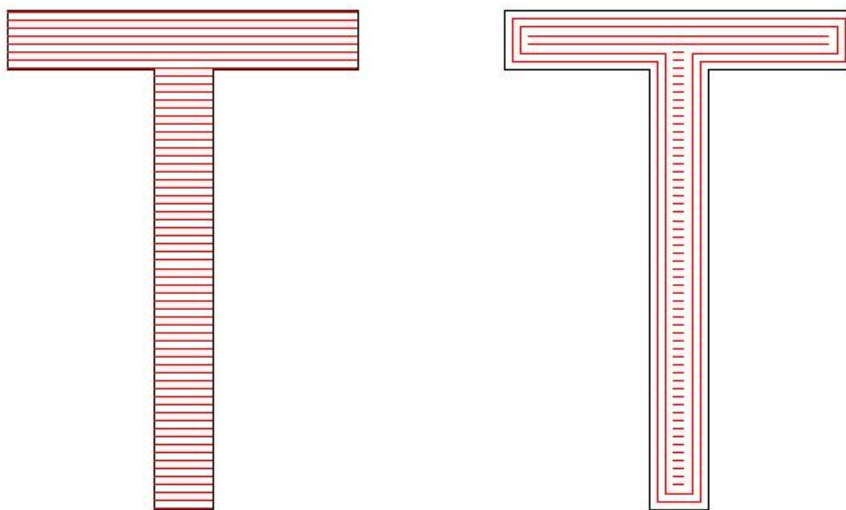

Figure 3-10 NumLoops
**NumLoops:** The times of Ring-like hatch before the acinicing hatch (Figure 3-10).